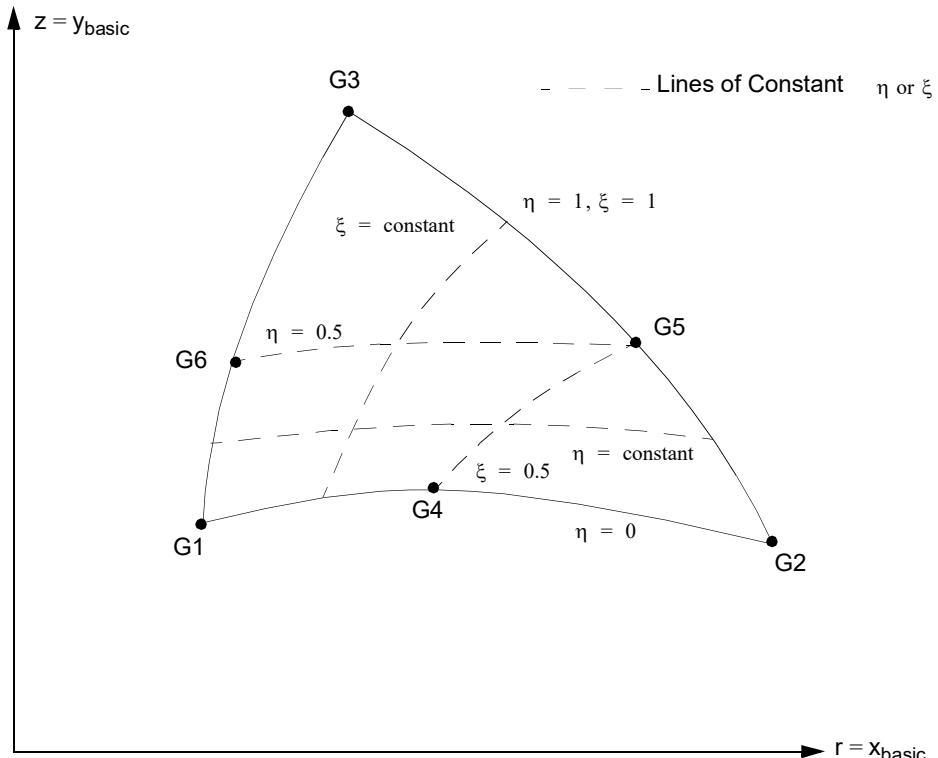

Figure 9-78 CTRIAX Element Coordinate System
3. Gi must be numbered as shown in Figure 9-78.